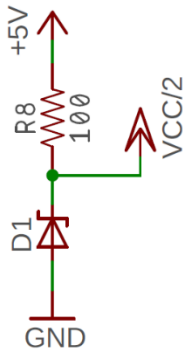

Figure 1: A voltage regulator made from a Zener diode.
When an increasing, reversed-biased (meaning its cathode potential is higher than its anode) voltage is applied to the Zener diode, it reaches its breakdown voltage, where it starts allowing large amount of electric current to flow. There are an almost unlimited variety of different breakdown voltages to choose from. We are using a Zener diode with a 2.5V breakdown voltage configured as shown in Figure 1.
2. The power dissipated in a Zener diode is the breakdown voltage (the voltage drop across it) times the current. What is the power dissipated by the Zener diode on our board (shown in Figure 1)? Represent your answer in milliwatts.